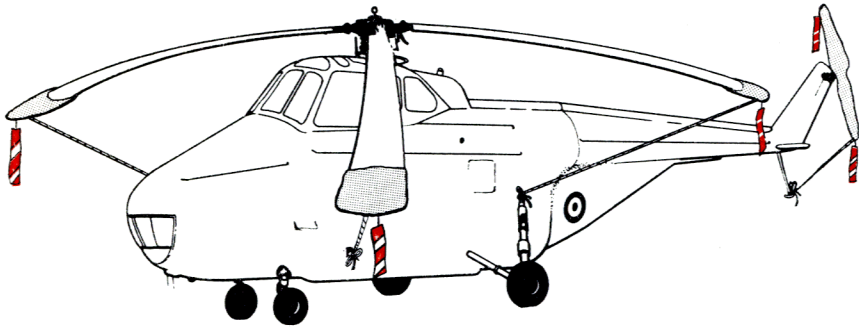

Fig 5 Moored blades
9. Rotor blades should be moored, if possible, when the helicopter is parked; even light gusts of wind may damage blades which are free to flap. Rotor blades are moored with one blade aligned along the tail cone and the tail rotor vertical (two bladed types). Special blade tip mooring covers, complete with rope, are used to secure the blades (Fig 5). The ropes are tied to anchorage points on the helicopter and should be tightened to prevent flap but not so tight as to strain the blades. When the blades are positioned for mooring the collective pitch control lever must be locked in the fine pitch position and the rotor brake applied.